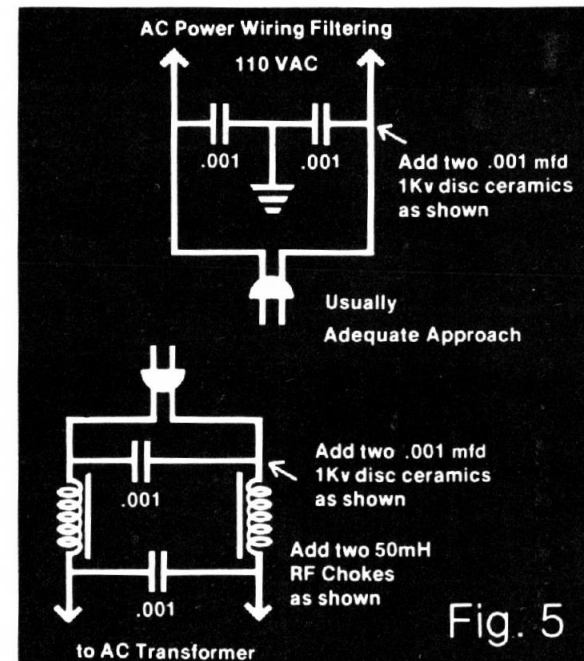

Fig. 5
1. An AC power line RF filter should be installed to determine if the RF from the transmitter is entering the TV via the power cord. (A line filter may be either purchased or one may be constructed by following the schematic in Figure 5.)
1. RF may be entering the audio device through the AC power line. Several power line filters are commercially available. If necessary, a power line filter like the one shown in Figure 5 may be constructed, placing the filter as close as possible to the point where the AC cord enters the amplifier.